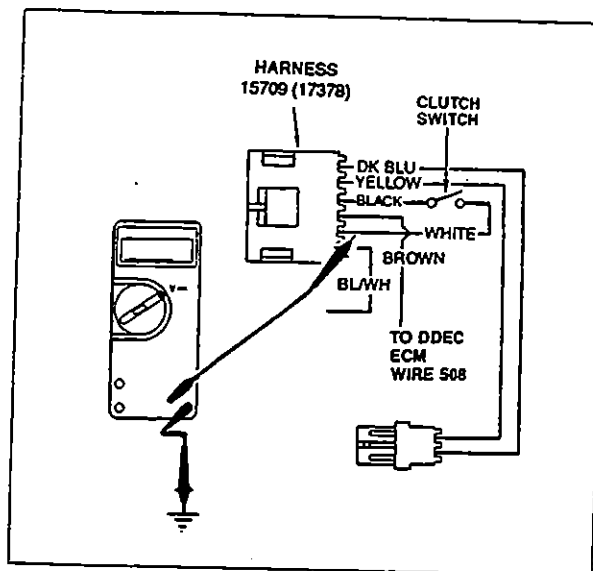

Fig. 1.1.24
**Correction:** With the P/N 015709 (017378) harness connected to the control module, measure the voltage at the terminal of the WHITE wire. With the clutch engaged (pedal not depressed), a reading of 0 VDC should be measured. With the clutch disengaged (pedal depressed) a reading of +5 VDC +/- 0.5 VDC should be measured (Fig. 1.1.24). If this condition does not exist, check continuity of clutch switch and BLACK and WHITE wires.